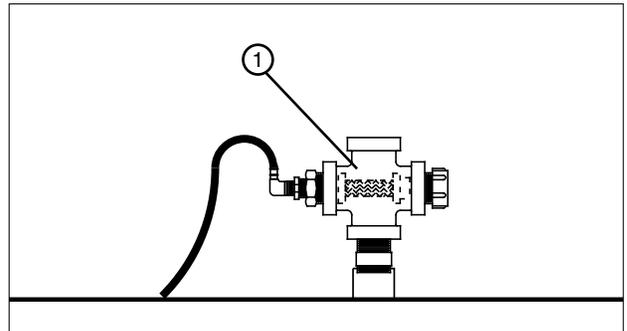

Figure 69-3 1. Cross Filter
8. Clean the solenoid valve cross filter or optional dirty water filter. See Figures 69-3 and 69-4.